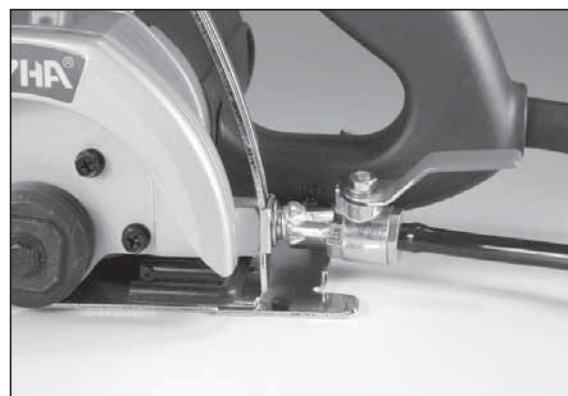

Figure-9
4. Align the water valve bracket with the wing nut hole and insert wing bolt. (See Figure-9)